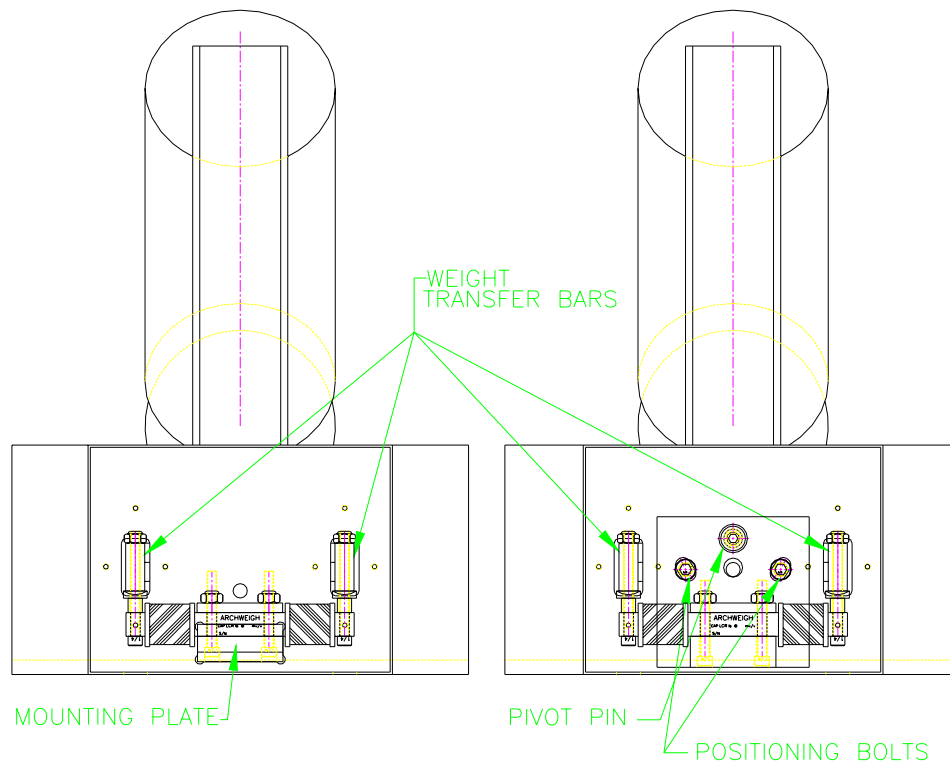

Figure 3
- ❑ 14) See *Figure 3* - Tighten the load cells to the weight transfer bars.
- ❑ 15) See *Figure 3* - Loosen the Pivot Pin one (1) turn, loosen the Positioning Bolts two (2) turns. Tighten the Positioning Bolts and then tighten the Pivot Bolt. This procedure removes any torsion strain placed on the assembly during installation.